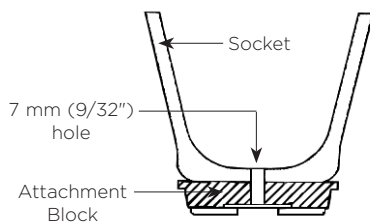
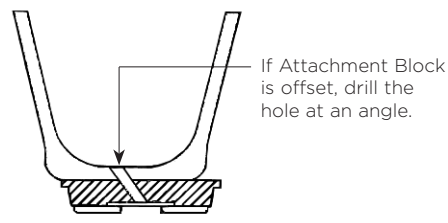

Figure 1
Figure 2
2. Drill a 7 mm (9/32") diameter hole in the center of the socket (Figure 1). If the 4-hole attachment block is offset with respect to the socket, drill the hole at an angle from the center of the Attachment Block to the center of the distal end of the socket (Figure 2).